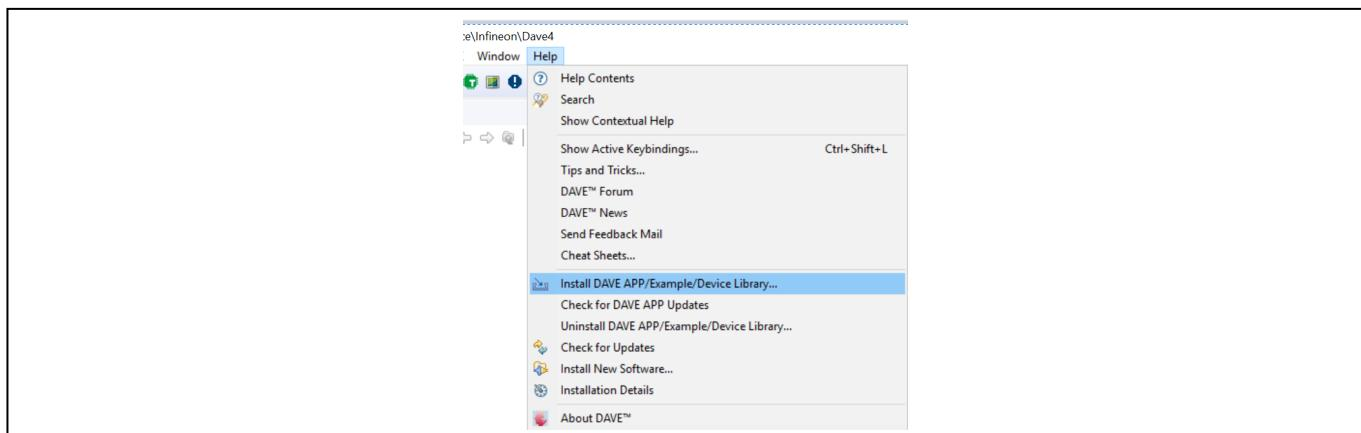

Figure 8 **Installing Device Library and Dave™ APP**
- From the top menu (under Help), select “Install DAVE APP/Example/DeviceLibrary” as shown in Fig 8.